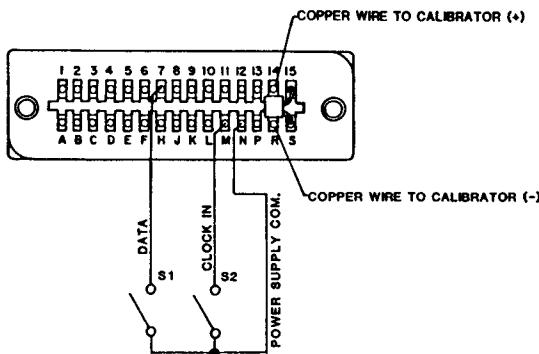

Figure 3. Recalibration Connections (P1 Connector)
2.3 Recalibrate Meter (refer to Figure 3)